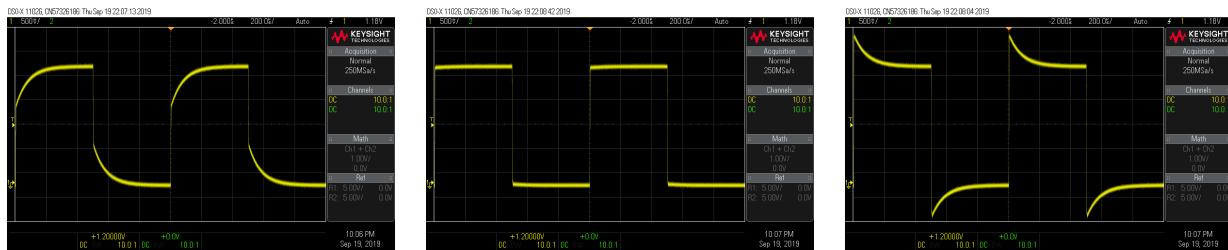

Figure 9: Square waves from probes with different compensations. From left to right: over-compensated, well-compensated, under-compensated.
4. Measure two instances of the time constant, τ —one when the oscilloscope probe is fully under-compensated and one when the oscilloscope probe is full over-compensated. The oscilloscope waveforms should appear similar to those shown in Figure 9.
As you can see in Figure 9, when compensating the probe using the oscilloscope's reference signal, you can have either overshoot or undershoot on the square wave. You can attach the probe tip to the probe compensation terminal and connect the probe to an input of the scope. Viewing the square wave reference signal, make the proper adjustments on the probe using a small screw driver so that the square waves on the scope screen look square. What you are adjusting is a variable capacitor at the tip of the probe. If low-frequency adjustment is not properly made, this will result in high-frequency inaccuracies in your measurements. It's very important to make sure this compensation capacitor is correctly adjusted.